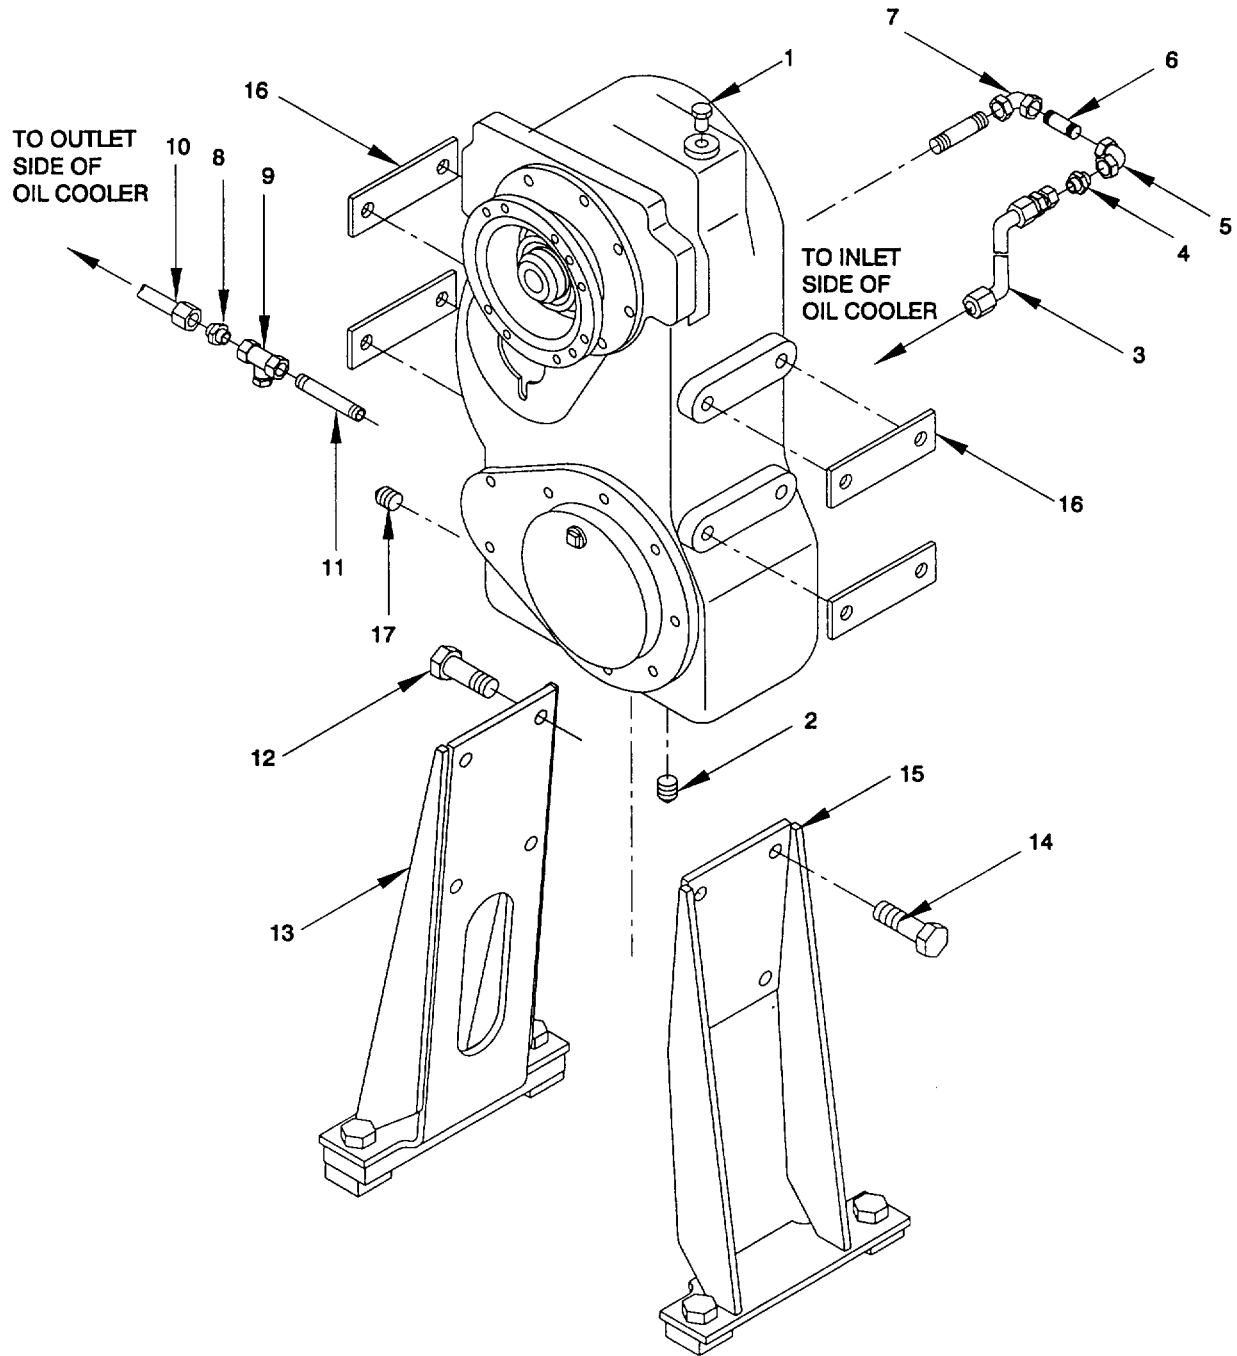

Figure 3-9. Transfer Case, Remove/Install.
a. *Remove.* (figure 3-9)
- (1) Drain oil from the Transfer Case by putting suitable container under drain plug (2), open breather (1) slightly and remove drain plug (2). Collect waste oil in the container and dispose of properly per MSDS. Replace drain plug (2) and breather (1).
- (2) Remove upper plumbing by disconnecting hose assembly (3) at male connector (4). Remove male connector (4) as an assembly with 90° elbow (5), pipe nipple (6) and 90° elbow (7). Remove lower plumbing by disconnecting rubber hose (10) at male connector (8). Remove tee (9) as an assembly with male connector (8) and hose assembly (11).
- (5) With suitable lifting device, carefully lift and maneuver the transfer case sufficiently to collect spacers (16). Lift transfer case assembly out of the powered section via the Cab or Intake Plenum access hole.
b. Install. (figure 3-9)**CAUTION**